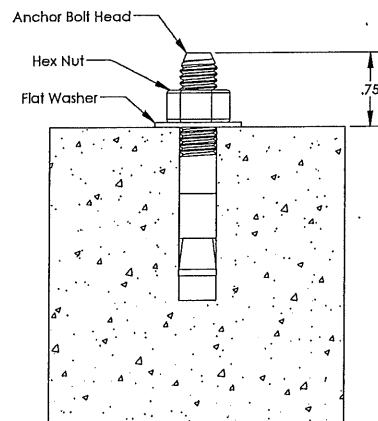

Figure 3
7. Tap the anchor into the hole with a hammer, making sure the nut and washer rest solidly against the concrete as shown in Figure 3.